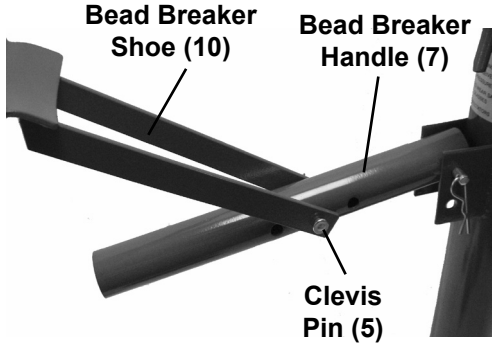

Figure 5
14. Slide the end slots of Bead Breaker Shoe (10) over the mounting holes along the middle of the Bead Breaker Handle. Align with the end or middle holes (depending on which tire size, the closest hole to the Center Post being for smaller tires). Secure in place using the other Clevis Pin and R-Clip. See Figure 5, below.